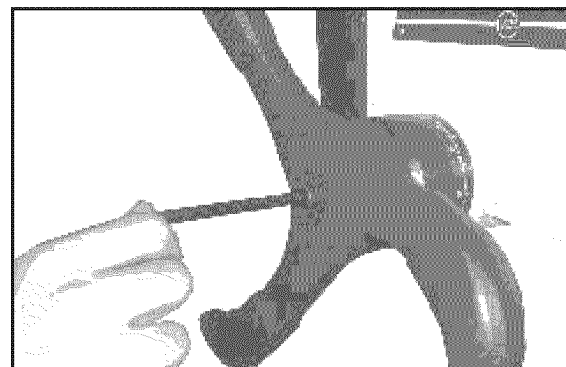

Figure 4
3. Place the feed handle to the hub. Tightening the set screw into the hub through the central hole of feed handle (Figure 4).